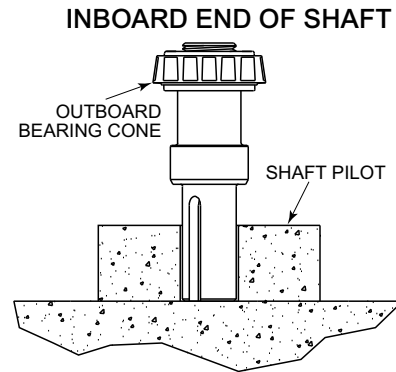

Figure 6.3.5.1 Placing Outboard Bearing Cone onto Shaft
4. Place the outboard bearing cone squarely on the inboard end of the shaft with the smaller diameter of the bearing facing inboard. Reference Figure 6.3.5.1 (next column).